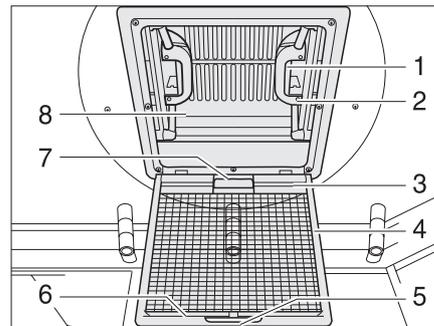

Fig. 32 Skylight with snap latch
- ▶ Pull the handle (Fig. 32,5).
- ▶ Fold the insect screen (Fig. 32,4) downwards.
- ▶ Push the spring-loaded latch (Fig. 32,1) towards the inside of the skylight (Fig. 32,8).
- ▶ At the same time use the handle (Fig. 32,2) to press the skylight upwards.
- ▶ Swing the insect screen upwards (Fig. 32,4) until it latches in place.
- ▶ Using both handles (Fig. 32,2), pull down the skylight (Fig. 32,8) with force until the two snap latches (Fig. 32,1) lock into place.
- ▶ Pull the handle (Fig. 32,7) of the blind and hook the hook rail (Fig. 32,3) into the retainer (Fig. 32,6) on the insect screen.
- ▶ Release the hook rail (Fig. 32,3) from the retainer (Fig. 32,6) and feed the blind back slowly.